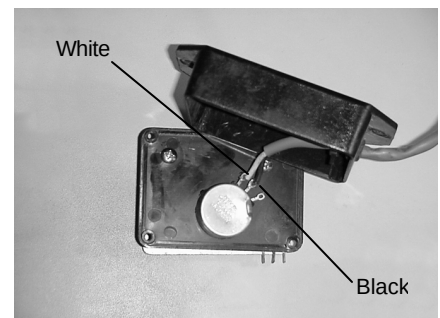

Figure 3 Pot Switch Wires
2. Connect black wire to center tab and white wire to left tabs of pot switch. Solder pot switch wires to pot switch tabs. See Figure 3
4. Route wires along frame to speed control module. Connect white lead wire to # 2 tab terminal and black lead wire to # 3 tab terminal on speed control module. See Figure 3.